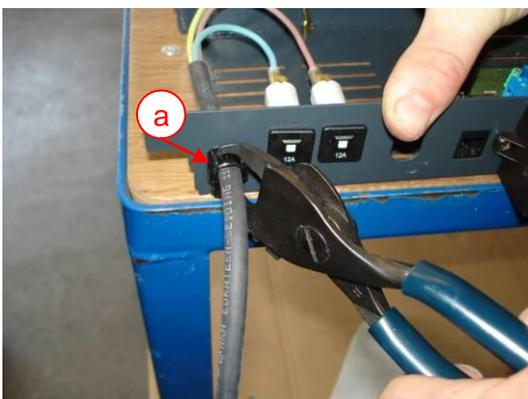

Fig. 35 – strain relief power cord
- Remove the strain relief from power cord (Fig. 35 a)